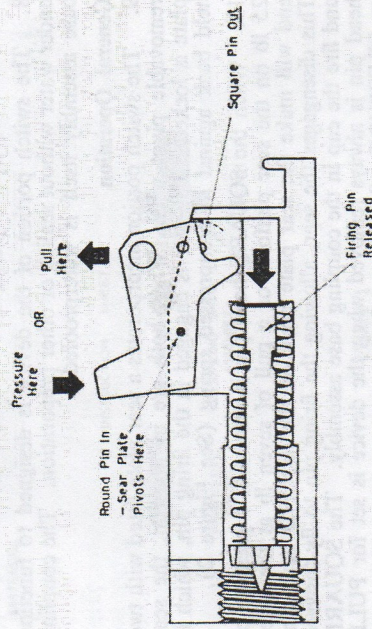

Figure 3
10. When the SQUARE head pin is removed, a pressure of 25 lb on the sear platform or a pull of seven lb at the other end will make the sear plate pivot on the ROUND head pin. This disengages the sear, allowing the firing pin to fly forward and fire the cap in the coupling base assembly. The SQUARE head pin is always removed when the device is set for PULL or PRESSURE (See Figure 3).